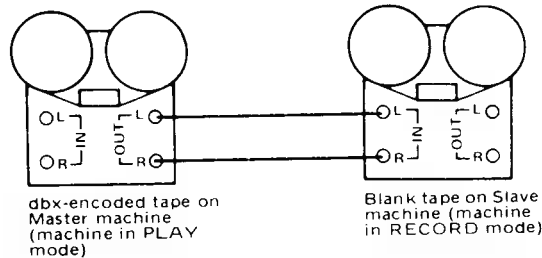

Fig. 9 – Copying dbx-Encoded and Unencoded Tapes Directly from One Tape Machine to the Other.
1. Since the encoded tape does not require additional dbx II processing in order to be copied, the master machine's PLAY OUT can be connected directly to the slave machine's RECORD INPUT. If the signal passes through the 128, it is not necessary to disconnect the unit, just press the BYP button. (Figure 9)